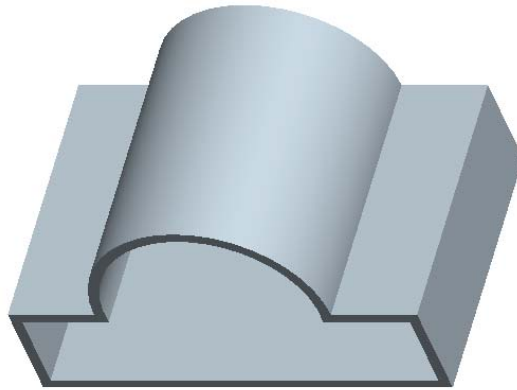

Figure 3-64 Default trimetric view of the solid model
5. Choose the **Build feature** button from the **Extrude** dashboard. The model will be displayed, as shown in Figure 3-64.